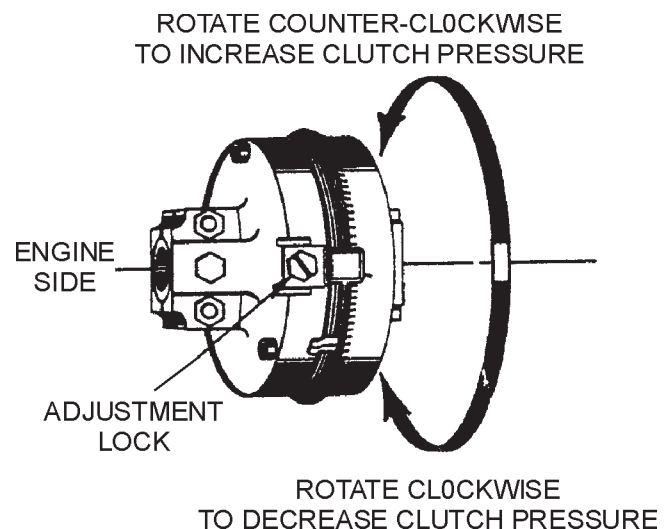

Figure 11. Clutch Adjustment Lock Location
- A. Rotate the clutch using the recoil starter until the **adjustment lock** (Figure 11) P/N EM934040 is visible. Using a flat blade screwdriver loosen the adjustment bolt just enough to release the adjustment lock.